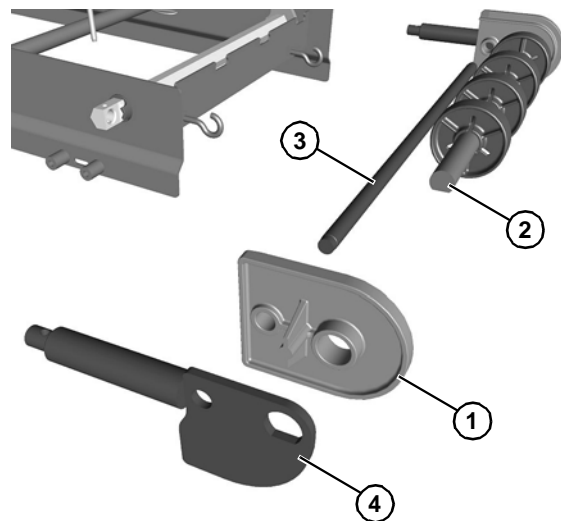

Figure 72
3. Install the tracking plate (Figure 72, item 1) to each side onto idler shaft (Figure 72, item 2) and pinch guard shaft (Figure 72, item 3).
4. Install the shaft assembly (Figure 72, item 4).